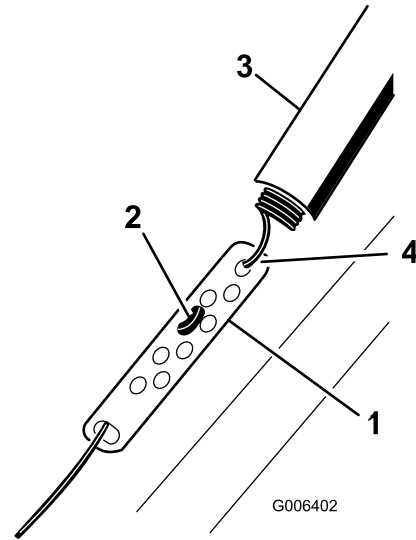

Figure 19
1. Slide up the spring cover and unhook the spring from the adjuster link (Figure 19).
2. Move the Z-fitting to a higher or lower hole on the adjuster link as needed to obtain the 1/16-inch to 1/8-inch (2 mm to 3 mm) gap between the control bar and the handle (Figure 19).